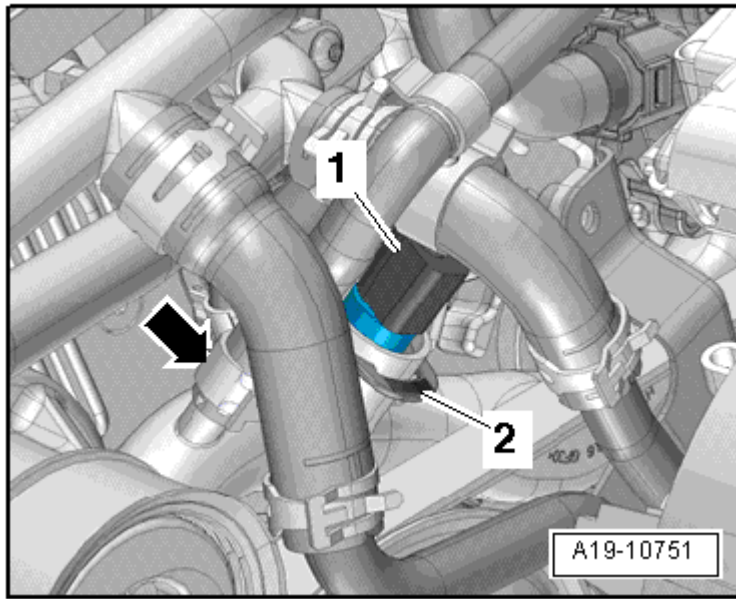

Fig. 22: Identifying Engine Coolant Temperature (ECT) Sensor -G62- And Clip
- Component location, refer to **Fig. 22**